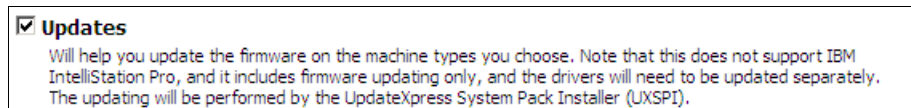

Figure 9-74 Selected update task
6. Check **Updates** and click **Next**, as shown in Figure 9-74.